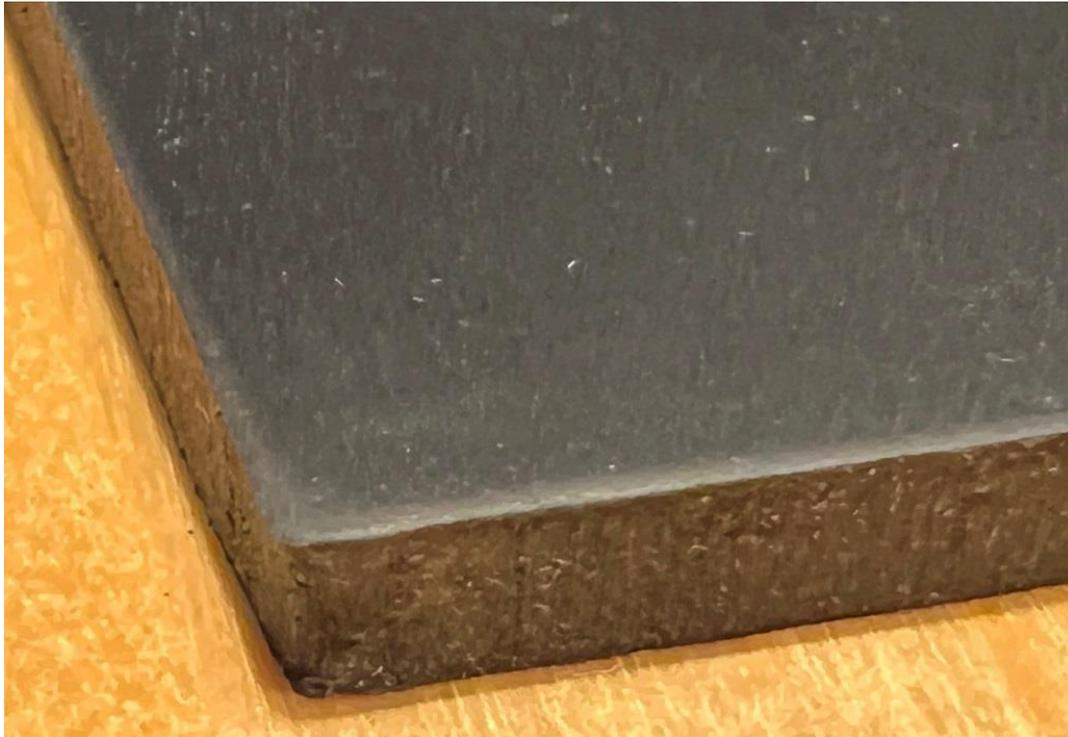

Figure 19. Thick synthetic rubber sheet to lay on top of the interface chassis.
- A sheet of thick 3~5 mm synthetic rubber sheeting (Fig. 19) simply laid on the top surface of the interface significantly reduced the hum vibrations. To supplement this another sheet can be laid on top, and as colour of the sheeting material is black, same colour as the chassis, it's hardly noticeable.